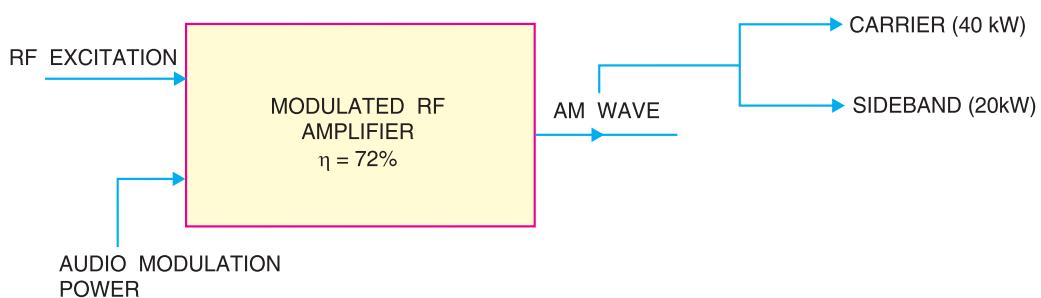

Fig. 16.10
**Solution.** Fig. 16.10 shows the block diagram indicating the power relations.